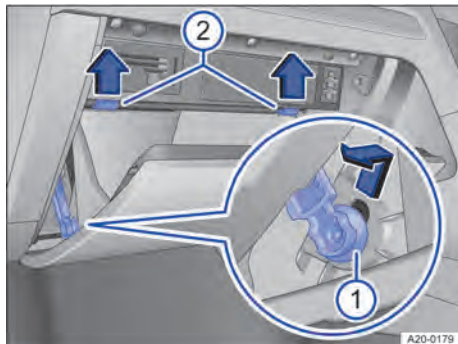

Fig. 180 Fuse box cover in the dash panel: right-hand drive vehicle, on the front passenger side (illustration).
1. Open the glove box and empty if necessary → Fig. 180.
2. Push the restrictor upwards into the opening of the holder and pull out to the side → Fig. 180 ①.
→ Fig. 180 ②.